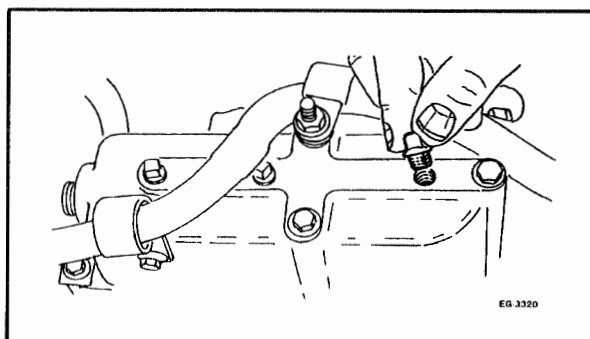

Figure 2.2-2. – Checking Oil Level in Reservoir
4. The oil level in the oil reservoir should be checked. Remove the inspection plug in top of reservoir (**Figure 2.2-2.**) to check oil level. Normal oil level is within 1/2 inch below the top of the reservoir. (If the engine has not been operated for some time, oil in the reservoir may drain into the crankcase. The engine may start hard or start and not continue to run.) Filling the res-